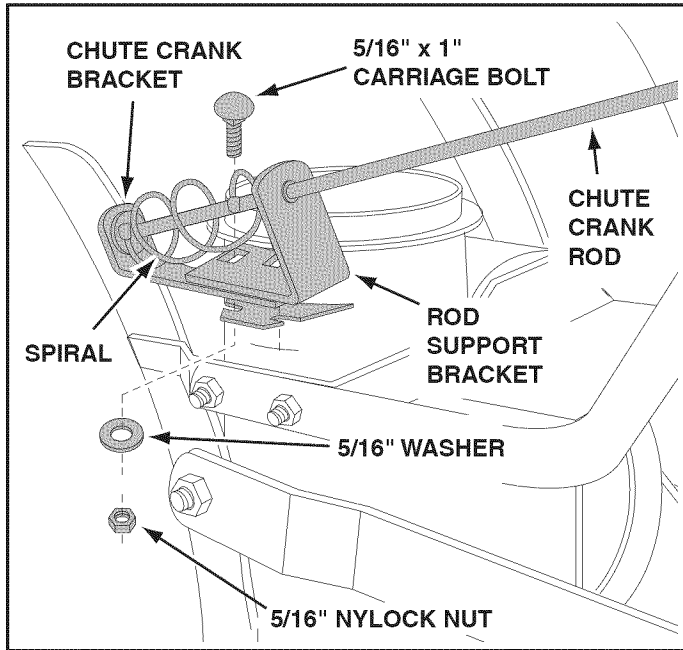

FIGURE 51 LEFT SIDE VIEW
STEP 52: (SEE FIGURE 51)
- Position the crank rod spiral (see figure 51) so that it does not rub against the bottoms of the notches in the chute flange. **Tighten** the nuts.